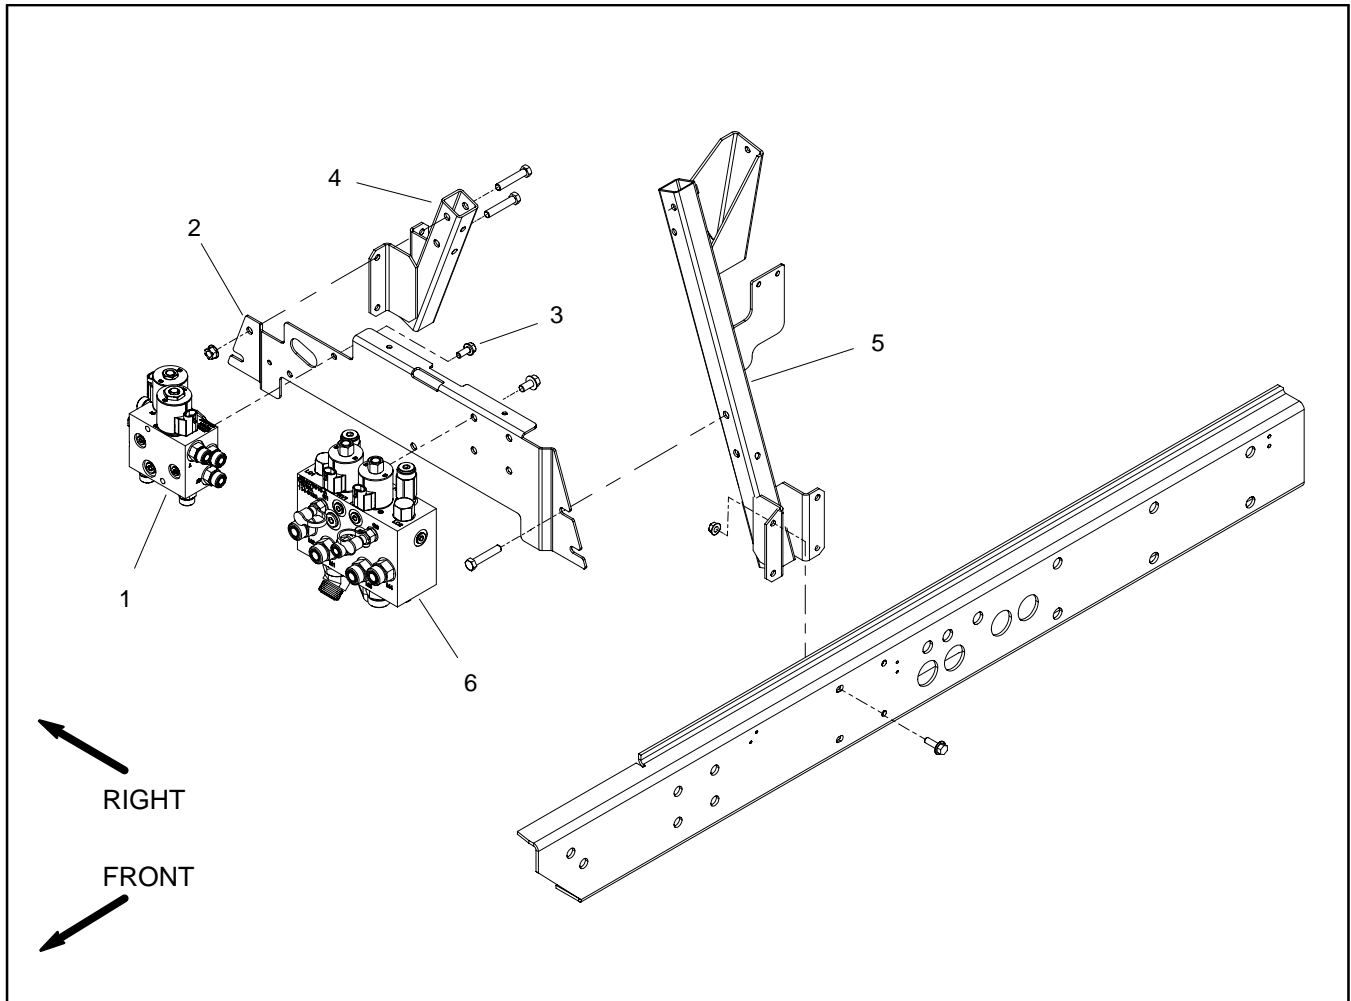

Figure 94
Removal (Fig. 94)
7. Remove hydraulic manifold from the frame using Figure 94 as guide.
Installation (Fig. 94)
2. Install hydraulic manifold to the frame using Figure 94 as guide.